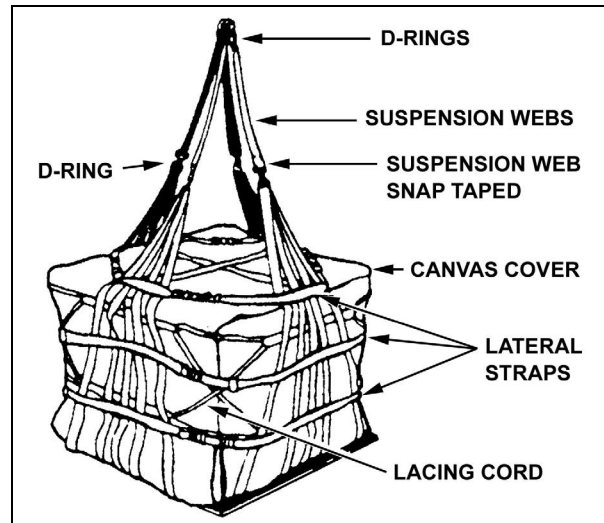

Figure 5-3. A-22 cargo bag.
(3) **A-22 Cargo Bag.** The A-22 cargo bag, with or without its canvas cover, can externally transport standard palletized loads, loose cargo, ammunition, oil drums, and other general items whose total weight falls under 2,200 pounds (Figure 5-3).